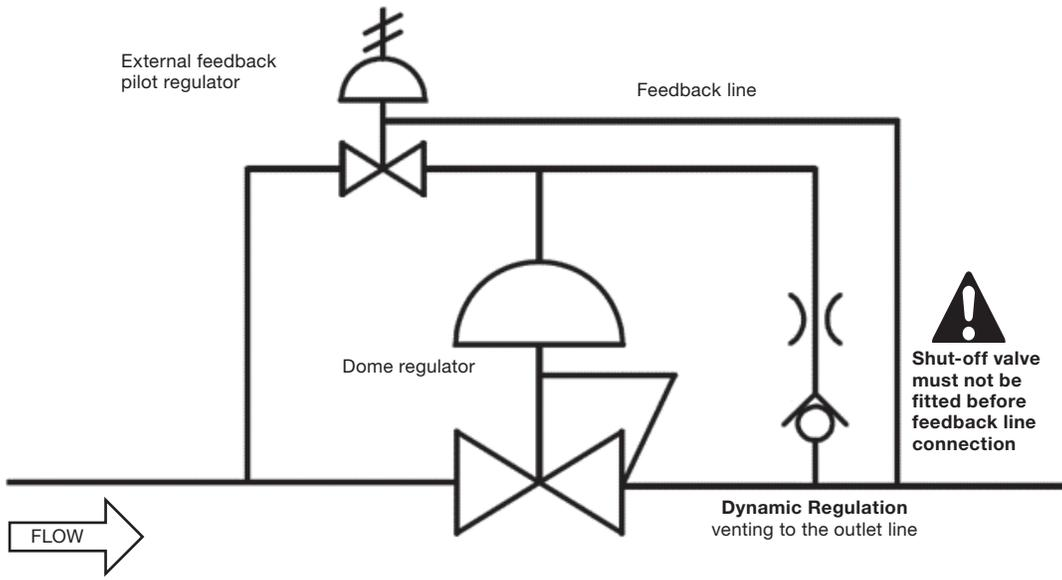

Figure 3
- **External feedback to pilot control.** In this setup an external feedback line can be connected from the regulator outlet line to the integral pilot regulator (Figure 3). This will allow for more accurate and stable pressure regulation and improved droop performance. Ideally the external feedback line is to be connected into a turbulence-free zone in the downstream piping and kept as short as practicable. The distance between the regulator outlet and the external feedback line connection can affect the regulator response time. This distance should be kept to a minimum.